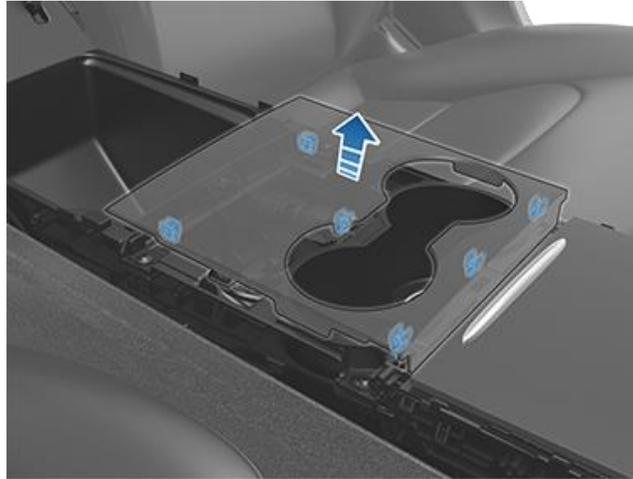

Figure 6
- Carefully lift up the cup holder décor trim to release the clips that attach it to the center console (Figure 6).
2. Carefully press down the cup holder décor trim to engage the clips that attach it to the center console (Figure 6).